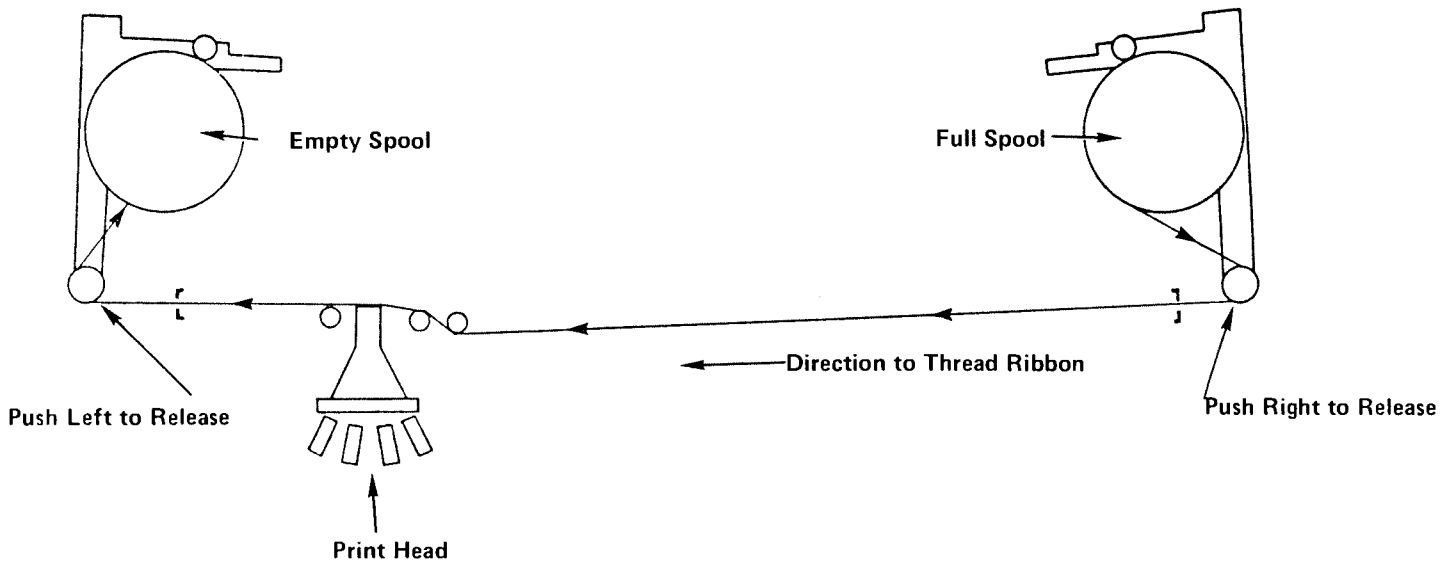

Figure 1.4. Ribbon Replacement Mechanism
5. Compare the Ribbon Mechanism with that in the diagram (Figure 1.4) to find the parts needed and follow the path of the ribbon in the mechanism.